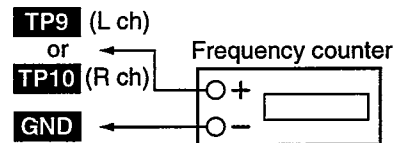

Fig. 8
1. Connect the measuring instrument as shown in Fig. 8.